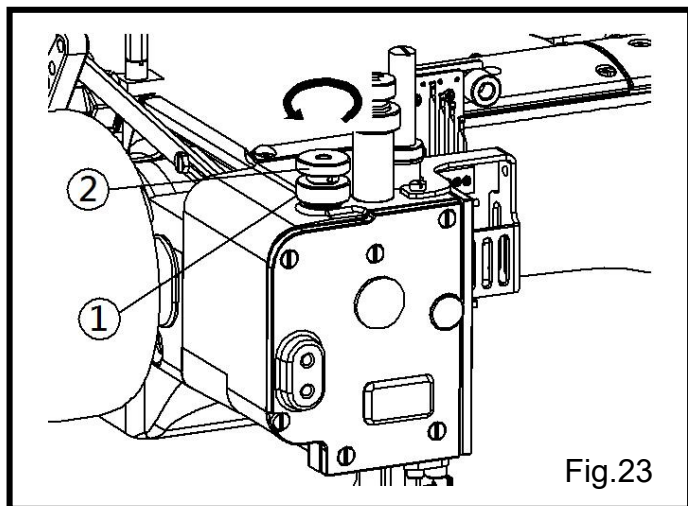

Fig.23
(1) 針在最底點的位置。
(2) 鬆開螺絲①，然後逆時間旋轉調整螺母②抬起壓腳。(Fig.23)
(1) Position the needle at the lowest point.
(2) Loosen the lock nut① and run the adjusting nut② counterclockwise to raise the presser foot.(Fig.23)